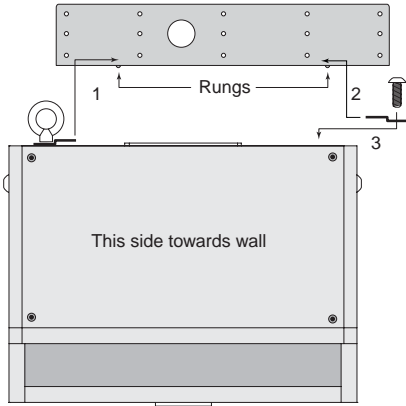

Figure 25: Midwall Mounting
Attach the four rubber mounting feet inside the corners on the side of the enclosure that will be against the wall and attach the safety line to the eyebolt. Insert one of the 3/8-16-thread Phillips-head screws through the remaining clip and keep it within arm's reach. Lift the enclosure up to the ceiling and bring its back into contact with the bracket rungs. Slide the enclosure sideways to engage the clip over one bracket rung (1) and, while holding it tight against both rungs, insert the 3/8-16-thread screw with its clip into the remaining mounting hole so the clip engages the remaining bracket rung (2, 3). Finger-tighten the screw and straighten the clip. The enclosure may now be released. It will slide down the rungs until the four rubber feet are snug against the wall. Using a #3 right-angle Phillips screwdriver, securely tighten the second Phillips-head screw. Gently rotate the EV® logo a quarter turn and press firmly at its center to seat it securely into its mounting hole. See Figure 25 on p. 10.